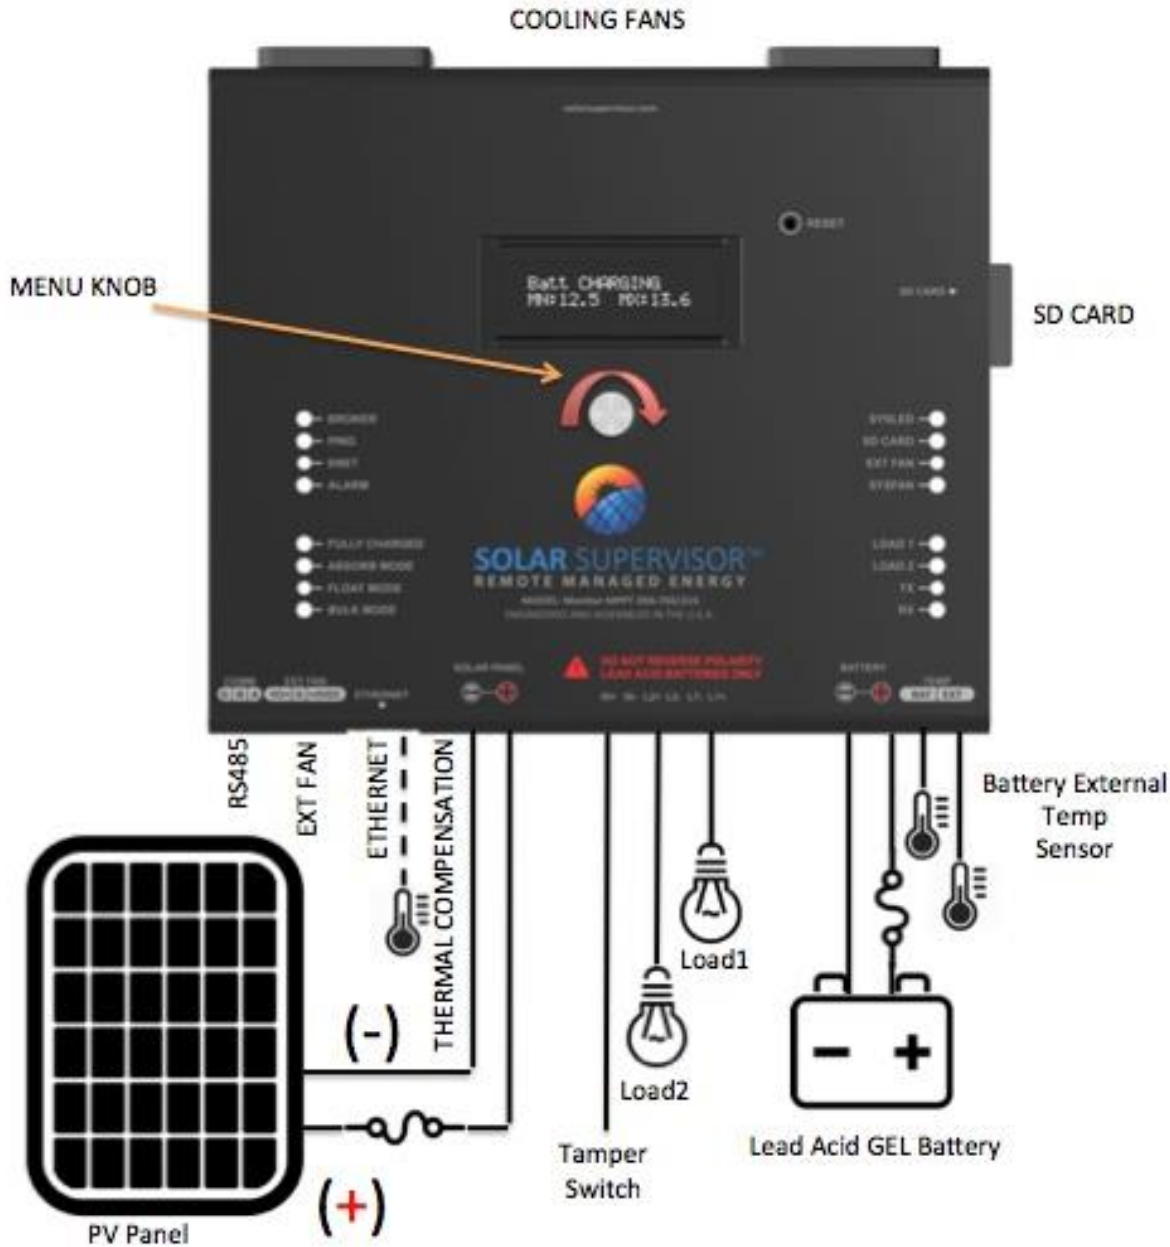

Figure 12 – Typical connection overview
10. Figure 12 – Typical connection overview